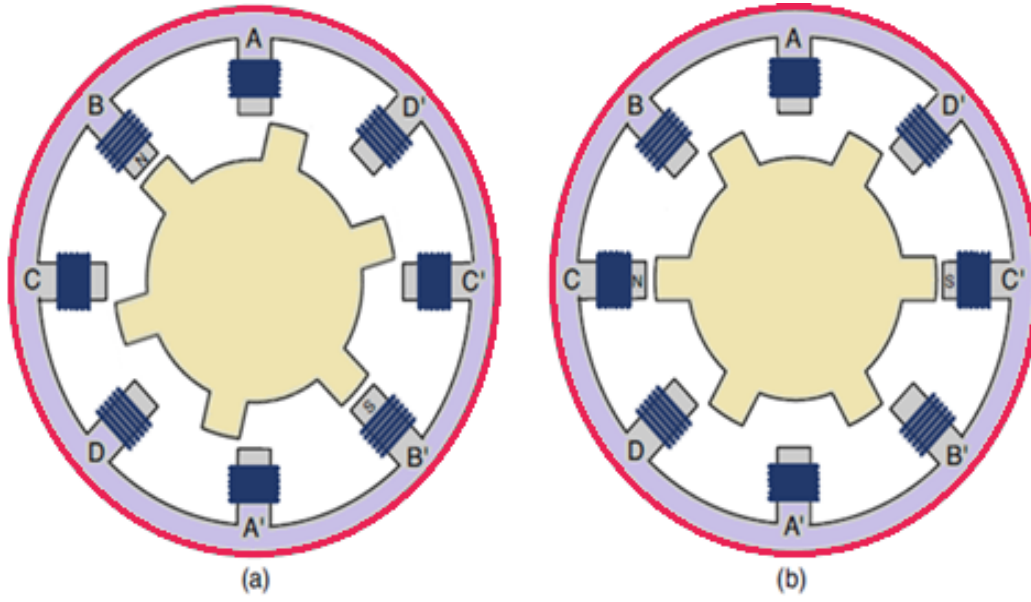

Fig.3.5:15° rotation of VR stepper
- Figure 3.5 illustrates the rotor and stator of a VR stepper. In this motor, the stator has eight windings and the rotor has six teeth.
- In Figure 3.5 a, the controller has delivered current to the B and B' windings, and the rotor has aligned itself accordingly.
- In Figure 3.5 b, the C and C' windings are energized. The C and C' windings attract the nearest pair of teeth, which moves the rotor 15° in the clockwise direction.
- In Figure 3.5,  $N_w$  equals 8 and  $N_t$  equals 6. Therefore, the step angle can be computed as  $360(2/48) = 15^\circ$ . The angular resolution can be improved by increasing the number of windings and teeth.